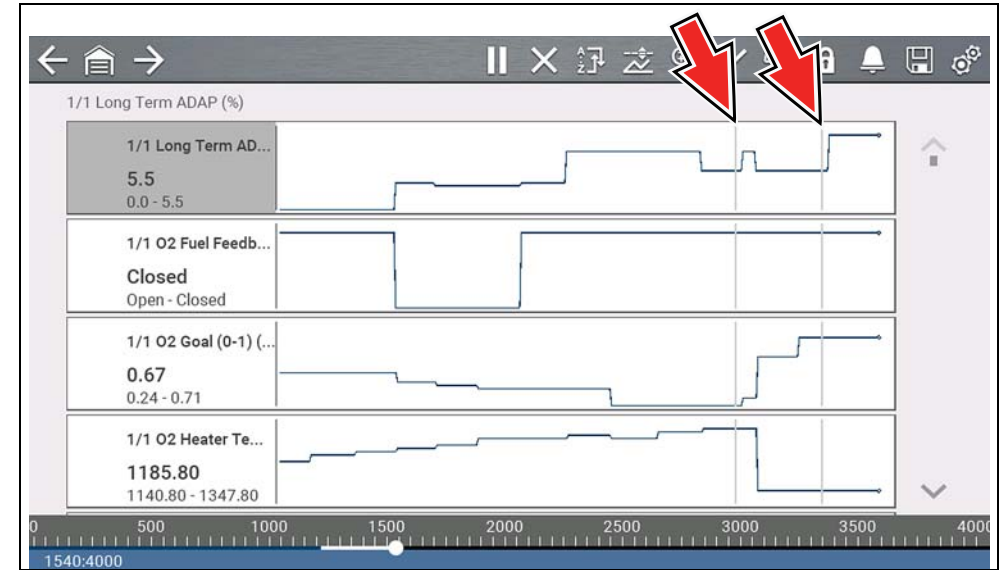

Figure 4-24
- The screen changes back to display data (Figure 4-24).
- A vertical gray cursor is displayed on all PIDs, indicating where the data was paused (Figure 4-24). If Pause occurred more than once, gray cursors will be used for each instance.